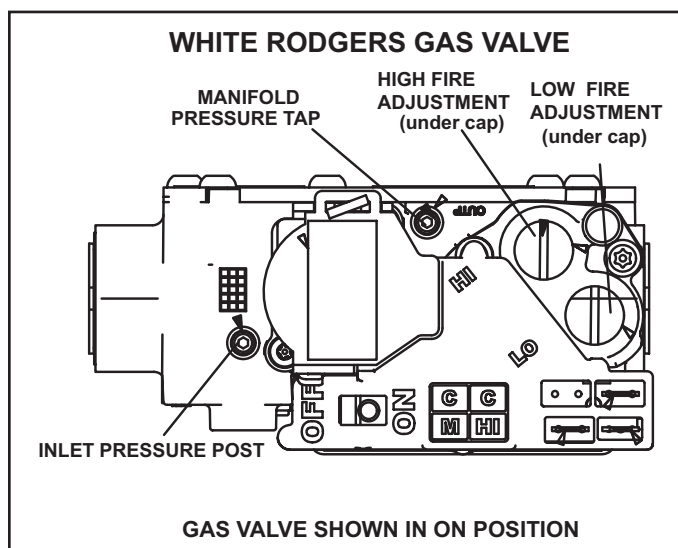

FIGURE 34
Gas Valve Operation (FIGURE 34)
- 6 - Move gas valve switch to OFF position. Do not force. See FIGURE 34.
- 8 - Move gas valve switch to ON position. Do not force. See FIGURE 34.
- 4 - Move gas valve switch to OFF position. Do not force. See FIGURE 34.
An inlet post located on the gas valve provides access to the supply pressure. See FIGURE 34. Back out the 3/32 hex screw one turn, connect a piece of 5/16 tubing and connect to a manometer to measure supply pressure. See TABLE 19 for supply line pressure.
A manifold pressure tap located on the gas valve provides access to the manifold pressure. See FIGURE 34. Back out the 3/32 hex screw one turn, connect a piece of 5/16 tubing and connect to a manometer to measure manifold pressure.
- 4 - If necessary, make adjustments. FIGURE 34 shows location of high fire and low fire adjustment screws.